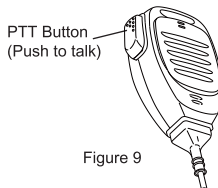

Figure 9
1. Hold the microphone about 2" from your mouth when speaking and press the [PTT] (push to talk) button. (Figure 9) The red LED lights during call.
2. Release [PTT] to return to the receive/listen (RX) mode. To receive your radio must be switched to the proper channel and set with matching signaling or Color Code and Group ID if used in digital mode.